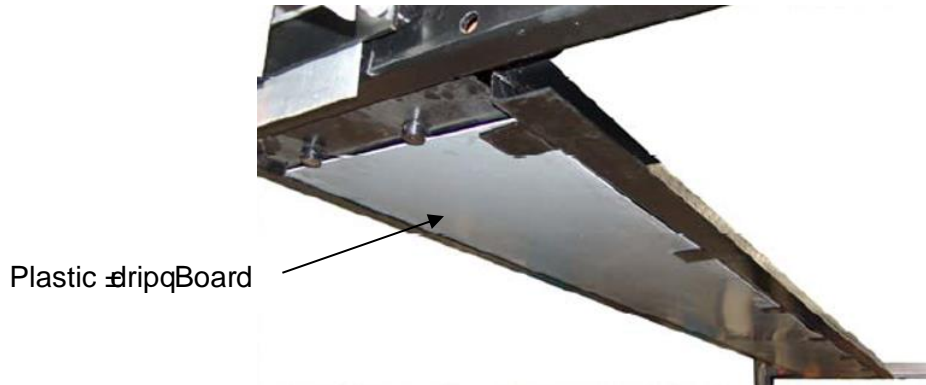

Fig.11
28. Install the Plastic Drip Boards (# 51A) into the bracket slots on the underside of the Mainside Runway, as shown below in Fig 11.